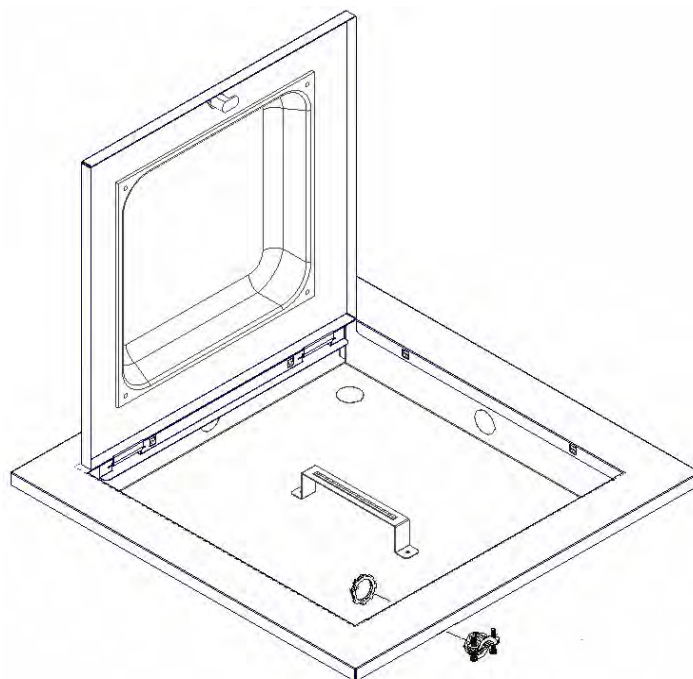

Figure 2 – Installation of cable clamp(s)
Step 2 – Install the conduit connector. Remove the knockout(s) from the inside of the enclosure. Insert the cable clamp through the hole with the nut installed from the inside of the enclosure (Ref. *Figure 2*).